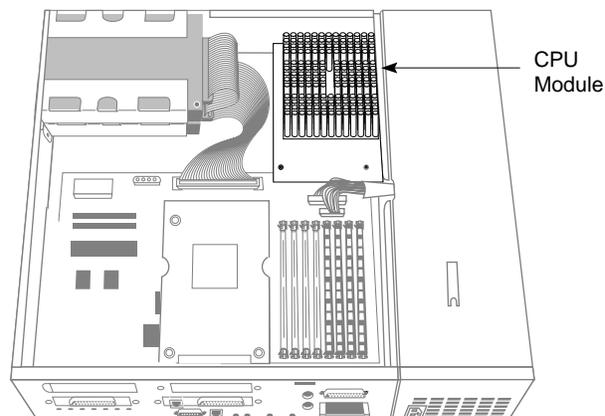

Figure 2-3 Locating the CPU Module
1. Locate the CPU module, as shown in Figure 2-3.